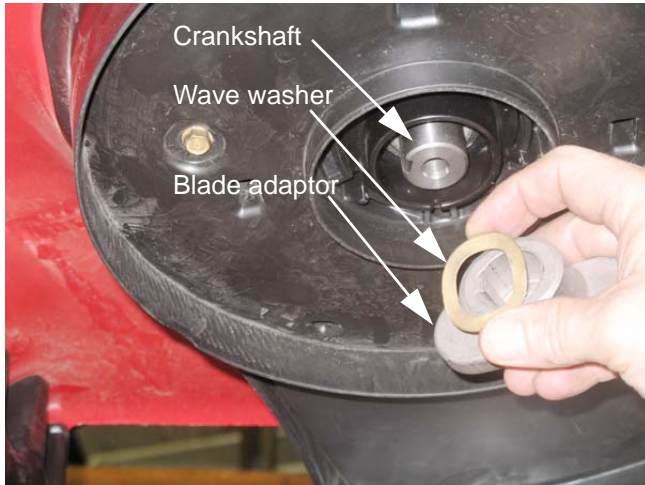

Figure 3.3
9. Check the blade adaptor for damage. There is a wave washer on the crankshaft, directly above the wave washer. See Figure 3.3.